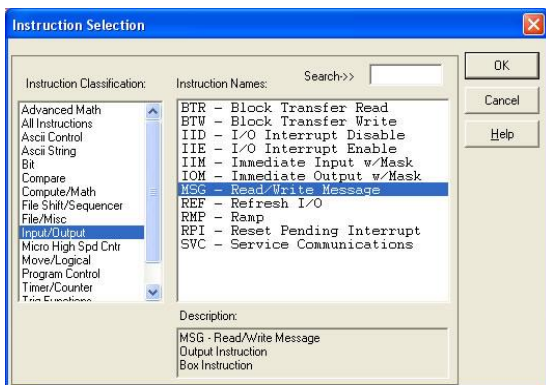

Figure 63: MSG Instruction Selection
- d) Select the "MSG" instruction from the "Input/Output" classification, then click OK. Refer to Figure 63.